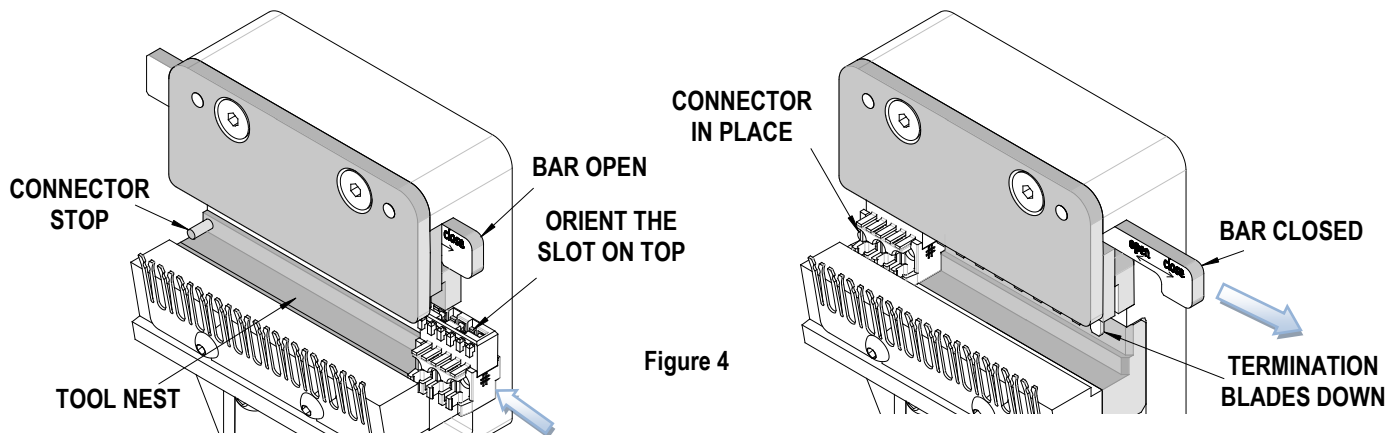

Figure 4
3. With the hand tool in the open position, load the connector in the tool. The tool nest is polarized to accept the connector in only one orientation (tabs facing outward) See Figure 4.